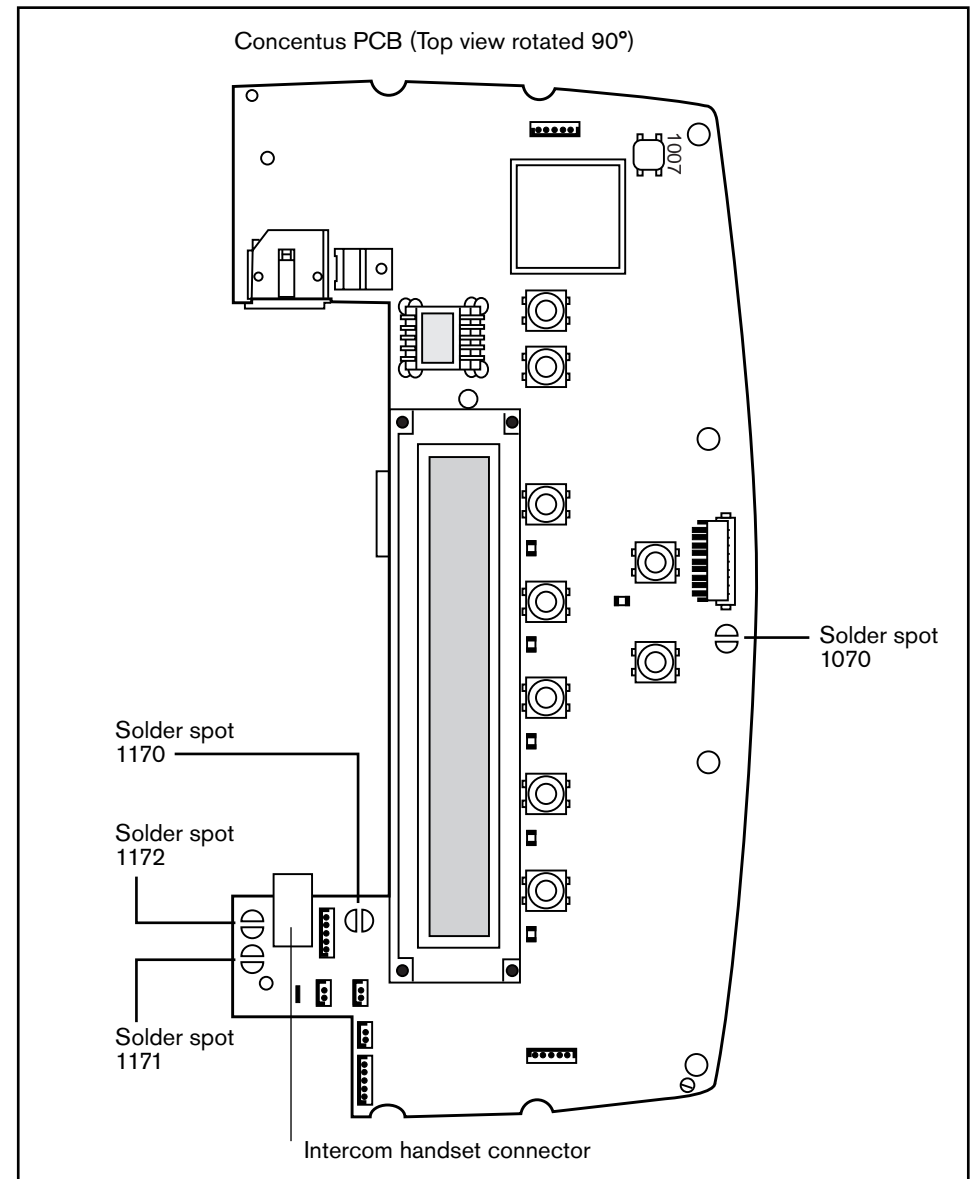

FIG. 2-11 PCB layout conference (Concentus) units
- Carefully remove the units housing, and locate the printed circuit board (FIG. 2-11).
- Locate solder spots 1070, 1170, 1171 and 1172 (FIG. 2-11).